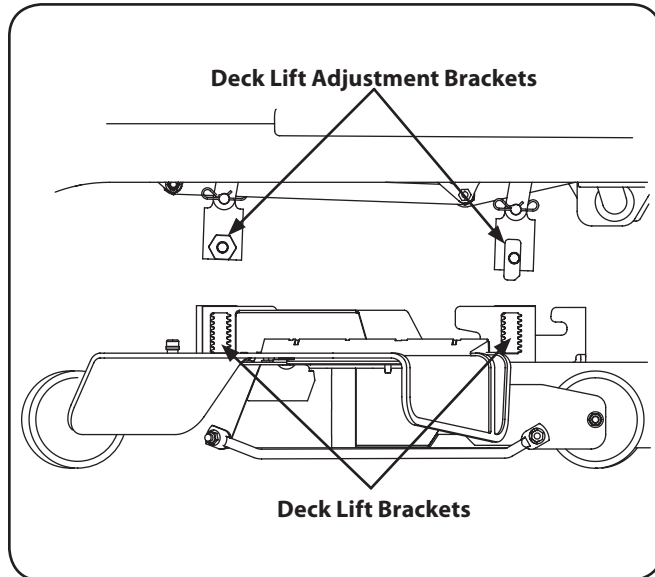

Figure 7-7
2. Slide the deck under the tractor on the right side of the tractor lining up the deck lift adjustment brackets and the deck lift brackets on the deck. See Figure 7-7.